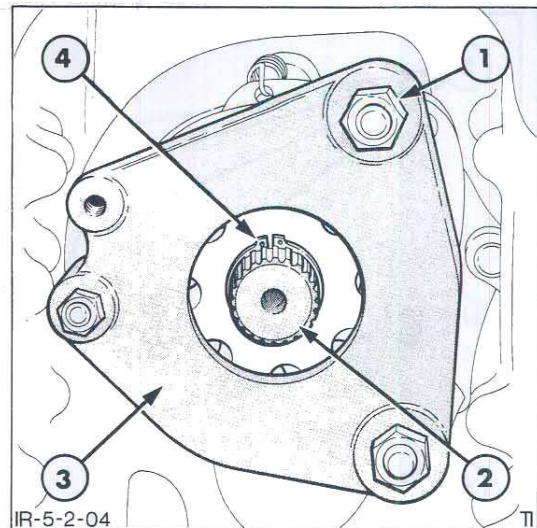

Figure 4
6. Remove the nuts that retain the front reaction plate, Figure 4. Disassemble the front reaction plate, brake discs and actuating plates from the drive pinion shaft after removing the snap ring.